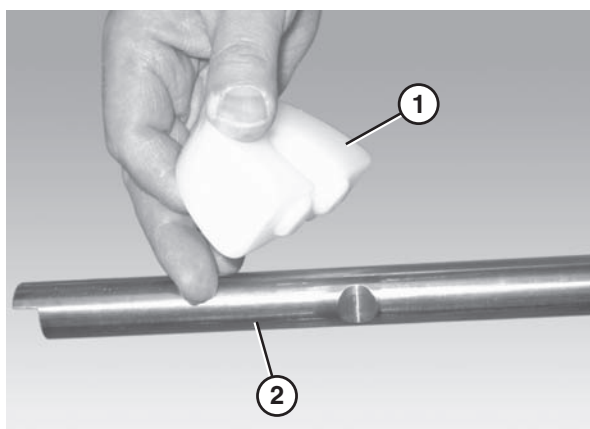

Figure 41
1. Attach the chain return shoes (Figure 41, item 1) to the return shaft (Figure 41, item 2).